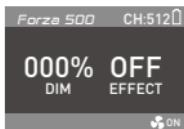

Figure 3
③EFFECT Button: When pressing the "EFFECT" button, If display shows" OFF", it is the locked status, so it cannot operate the special effect mode . If "Effect" button is pressed again, the status is now unlocked. (As shown in figure 3)